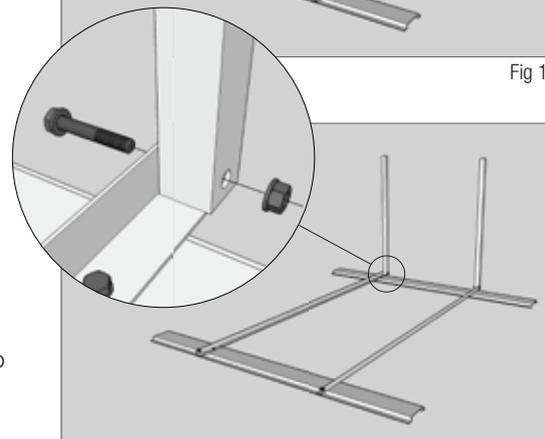

Fig 2
5. Locate the two square legs (box sections) and position vertically on the lip of the bottom rails at the far end and fix into position. (Fig 2)